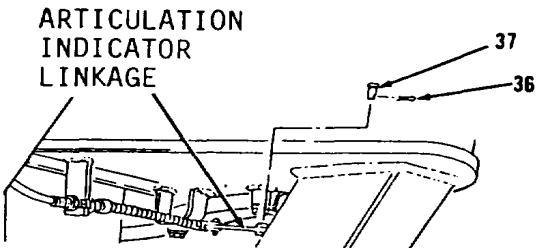

Figure 16-8.
- 19. Install pin (37) and new cotter pin (36, Figure 16-8) on articulation indicator linkage.